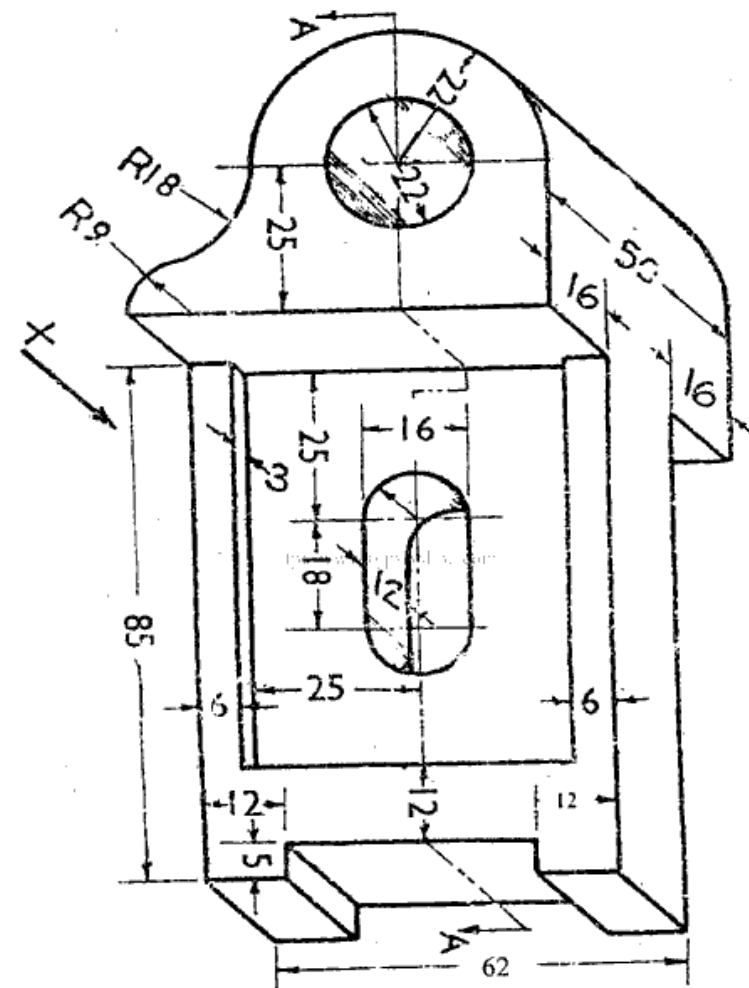

Fig. 1
6. Draw the following view of machine component shown in fig. 1. 20